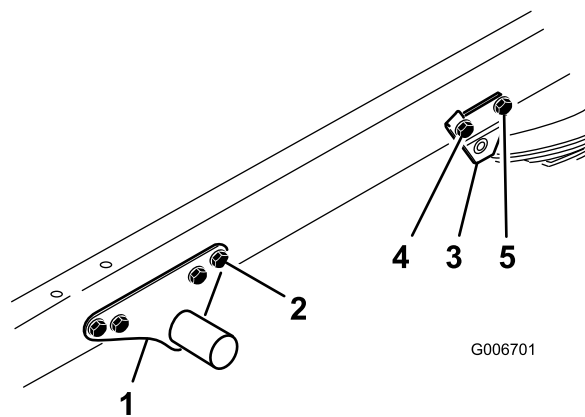

Figure 13
29. Remove the flange screw and locknut, shown in Figure 13, securing each side of engine frame to vehicle frame.
31. Remove the front flange screw and locknut securing right leaf spring mount to side of vehicle frame (Figure 13).
33. Remove the rear flange nut and locknut securing left leaf spring mount to side of vehicle frame (Figure 13).